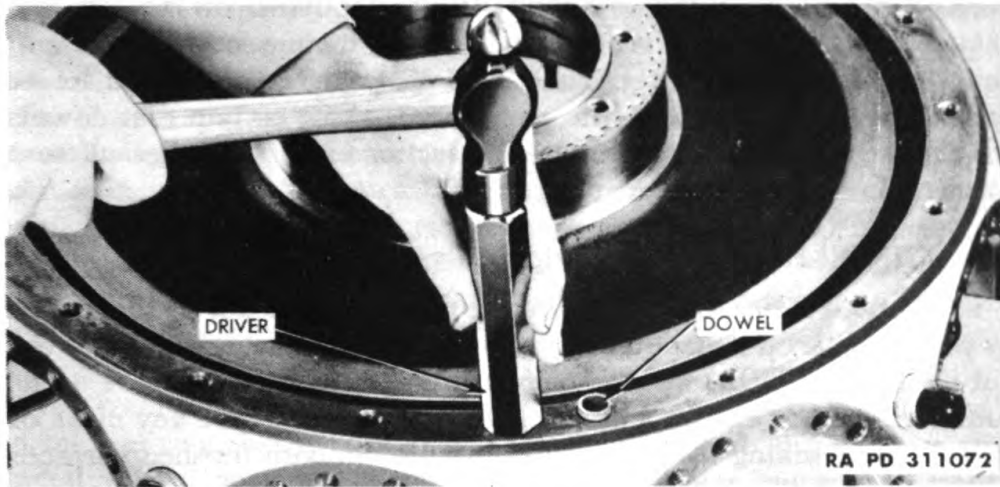

Figure 58 – Installing Crankcase Dowels, Using Driver 5A2156
(2) **ASSEMBLE CRANKCASE REAR SECTION.** Assemble eight hollow dowels and eight rubber seal rings in crankcase main rear section by driving dowels into position with driving tool (5A2156) (fig. 58) and placing seal rings on protruding portion of dowel.